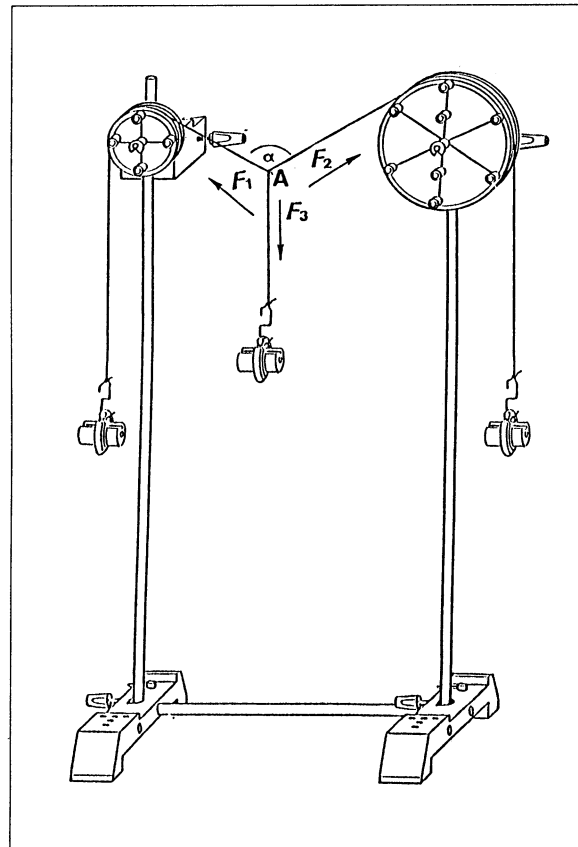

Fig. 1 Experimental setup for investigating three forces of equal magnitude acting on a static point A.
1. Assemble the stand bases and stand rods as shown ► Fig. 1.
7. Thread the cord round the pulleys as shown in fig. 1.